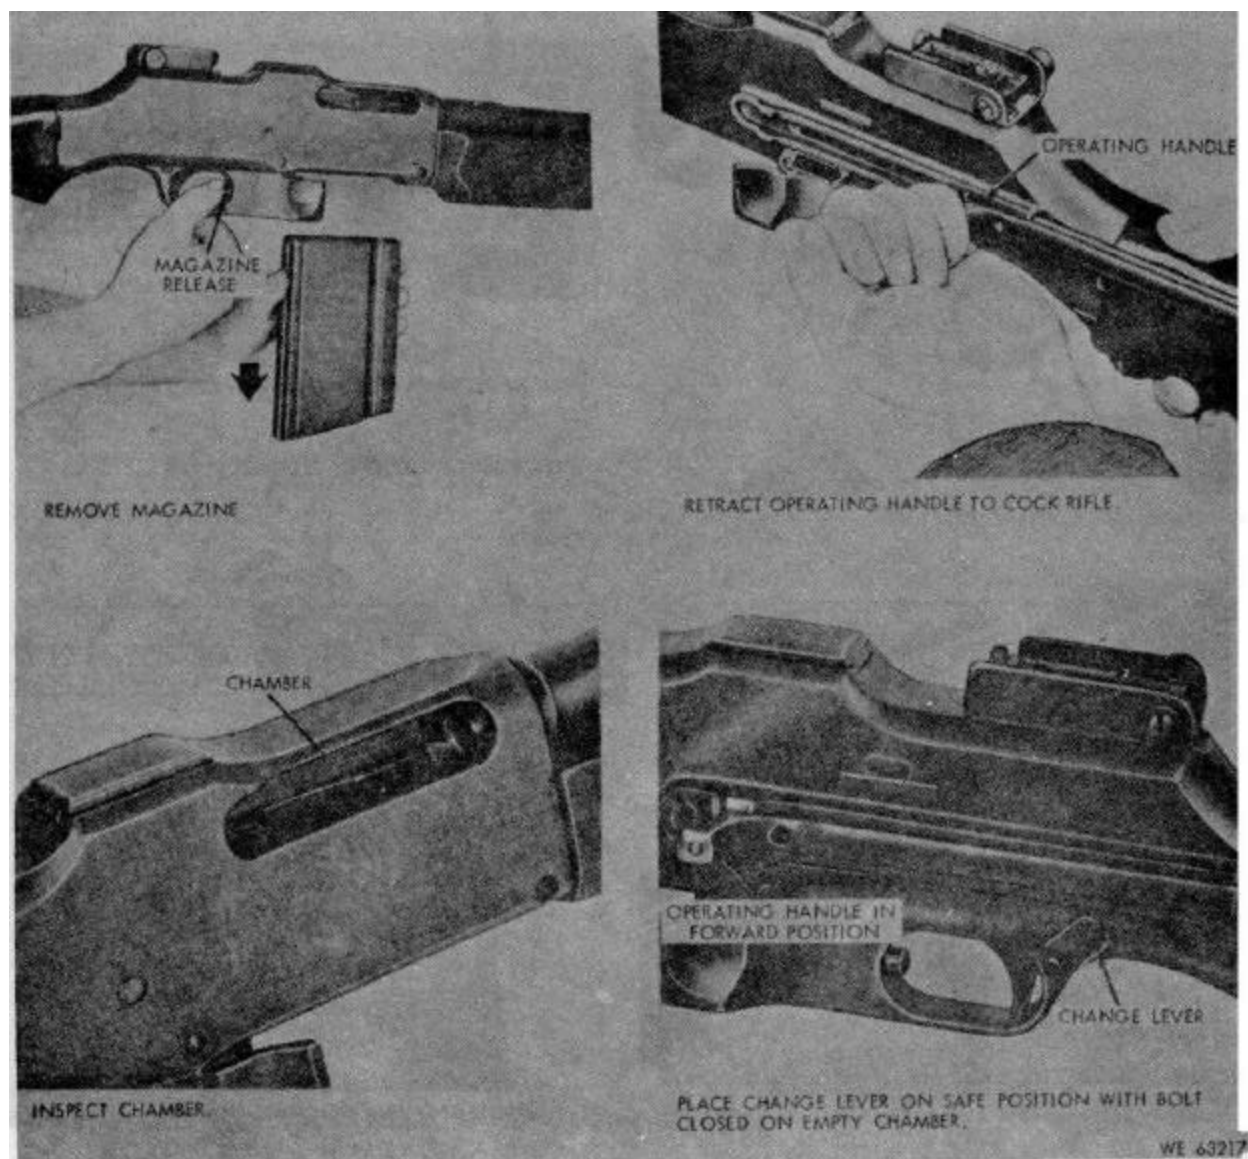

Figure 2-2. Clearing rifle.
b. Clear rifle as shown in figure 2-2.
Refer to figure 2-2.